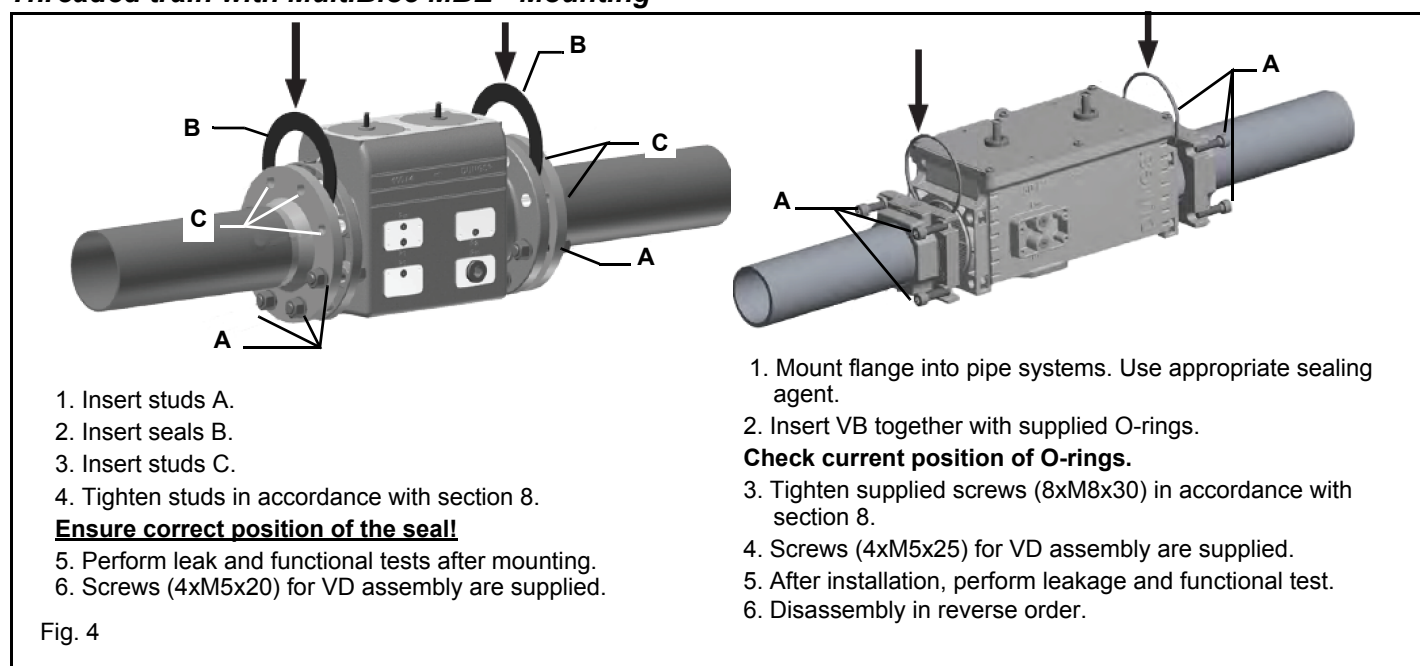

Fig. 4
1-b) in case of flanged joints: place a gasket (no. 1A..1E - Fig. 4) between the elements;
**ATTENTION:** once the gas train is mounted according to the diagram on Fig. 4, the gas proving test must be performed, according to the procedure set by the laws in force.